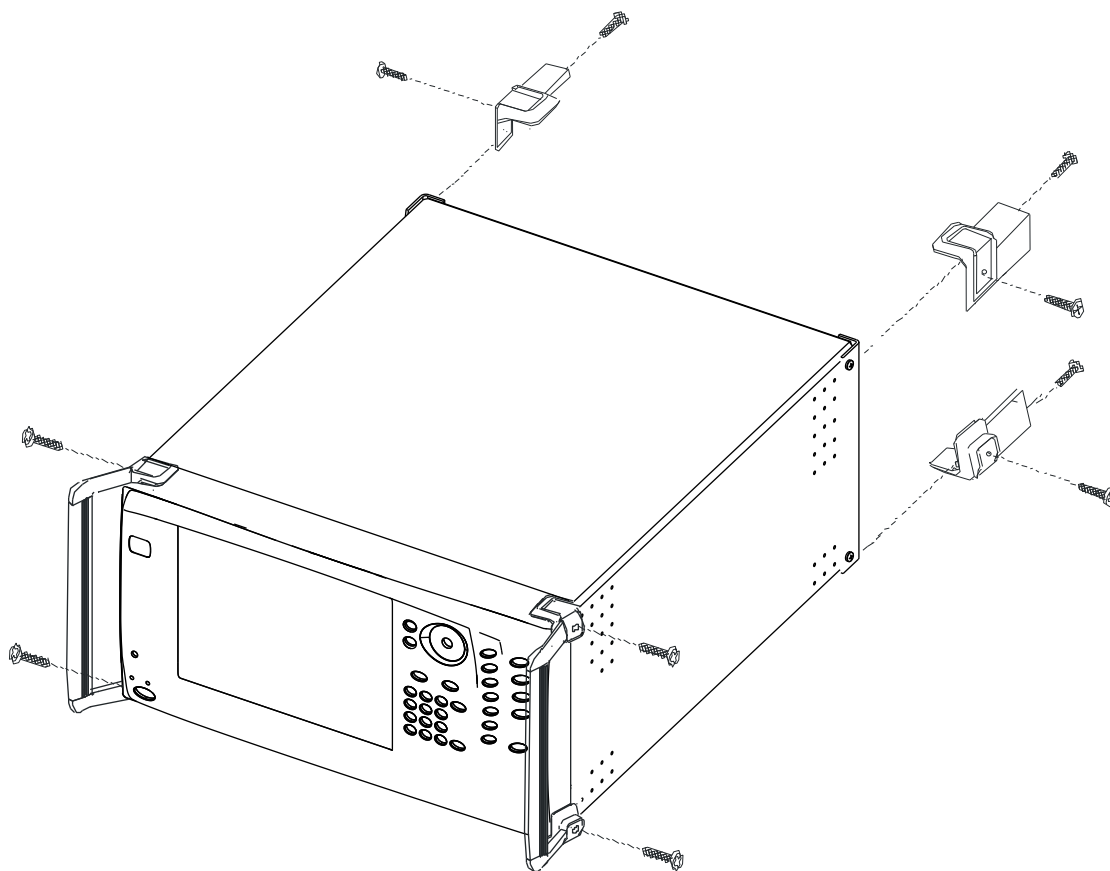

Figure C-1. Removing Instrument Handles and Feet for Rack Mount
3. Using a Phillips screwdriver, remove the two front panel handles and the four feet at the rear of the instrument (see Figure C-1). Save the screws for later use.